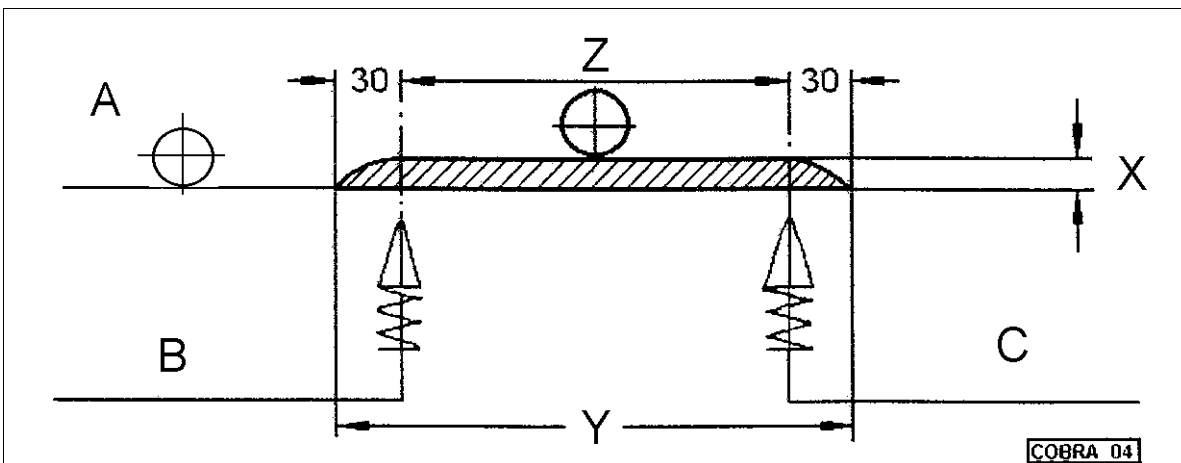

Fig. 4: Elevation of the roller running surface
- To compensate large variations in height of the rollers (e.g. the rollers above the running surface in the case of stiff chain links). Elevation of the roller running surface according to Fig. 4. Note the following: